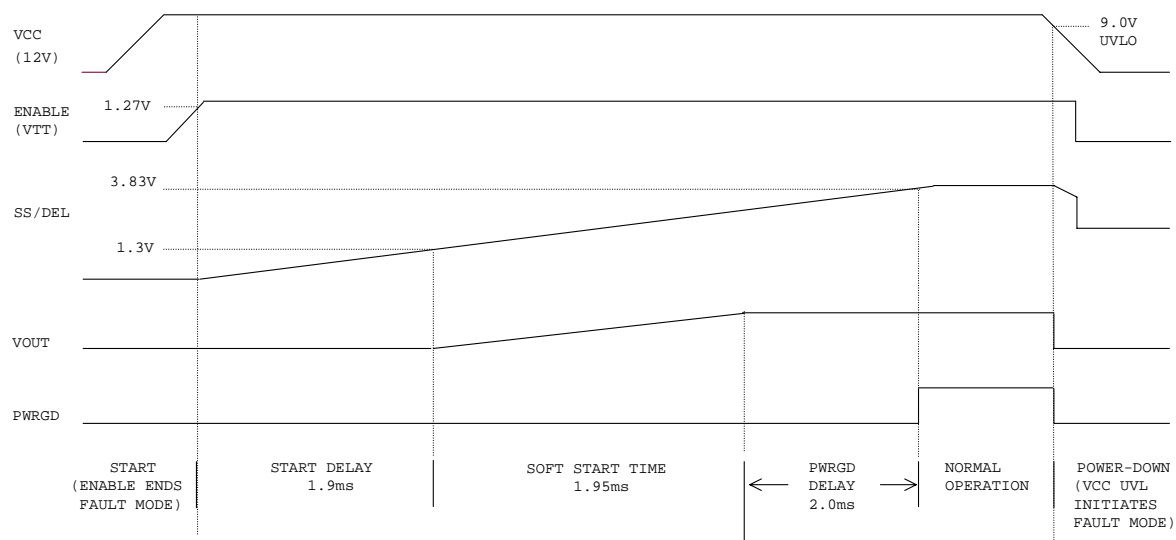

Figure 10 – Start-up Waveforms
The IR3082 has a programmable soft-start function to limit the surge current during the converter start-up. A capacitor connected between the SS/DEL and LGND pins controls soft start as well as over-current protection delay and hiccup mode timing. A charge current of 66 μ A and discharge current of 6 μ A control the up slope and down slope of the voltage at the SS/DEL pin respectively. Soft start-up waveforms are shown in Figure 10.
The SS/DEL pin voltage controls the slew rate of the converter output voltage, as shown in Figure 10. After the ENABLE pin voltage rises above 1.23V, there is a soft-start delay time t_{SSDEL} , after which the error amplifier output is released to allow the soft start. The soft start time t_{ss} represents the time during which the output voltage rises from zero to V_o . t_{ss} can be programmed by an external capacitor, which is determined by Equation (1).